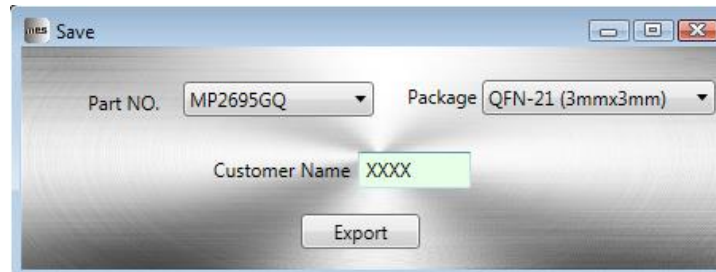

Figure 10: Export Window
5. Ensure that all parameters are populated before selecting "Export." Export the configuration by clicking "Export" in the toolbar (see Figure 10).